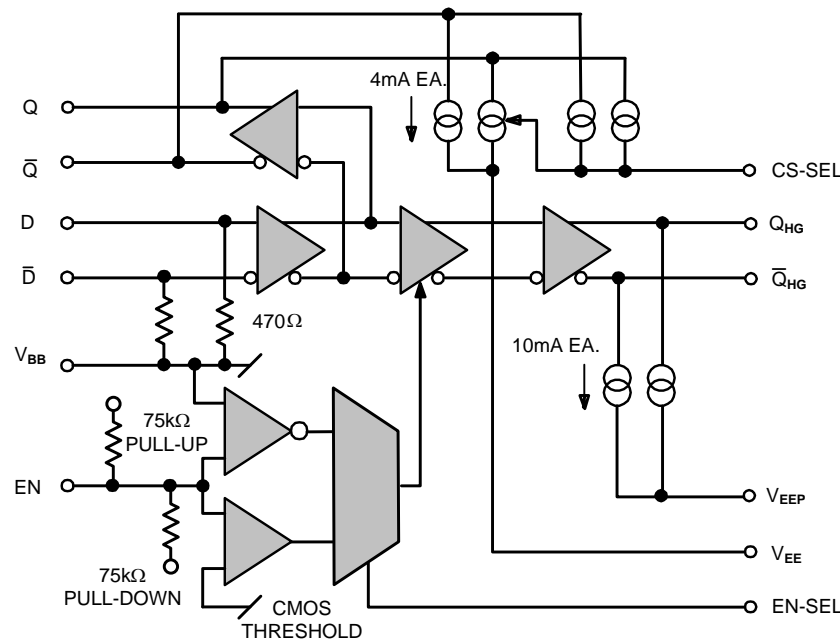

Figure 3 - AZ100LVEL16VRL Block Diagram
Figure 3 illustrates the timing sequences for the AZ100LVEL16VR in the MLP 16 package or as die. It is shown here with the enable operating in active Low mode with a PECL threshold. This mode is determined by leaving the EN-SEL open (NC). An active High enable with a CMOS/TTL threshold is also an option.